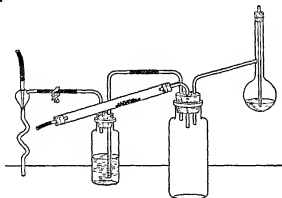

Fig. 24
**85 Preparation of Sulphuric Acid** (Two students working together) Obtain a distilling-flask (25 c c), rubber connections for a safety bottle, a screw-clamp, and a Chapman pump from the store-room. Fit up with your one-liter bottle the apparatus as in Fig 24. Charge the hard glass tube with about 10 g of granular pyrite,\* and place a small, loose plug of asbestos just beyond the pyrite to retain any unburnt sulphur. Put into the distilling-flask about 10 c c of pure concentrated nitric acid. The safety bottle, half filled with water to show the rate at which air is being drawn through the apparatus, is attached to the water pump. The total air admitted is regulated by the